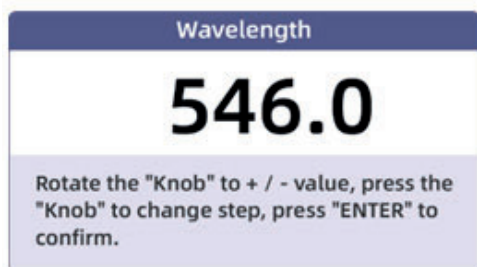

Fig. 6-6 Set the measurement wavelength
- Press the knob to pop up the setting interface (Figure 6-6), rotate the knob to change the measurement wavelength, press “**ENTER**” to confirm;